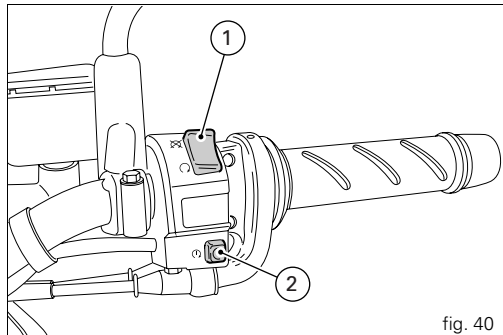

fig. 40
- 2) Check that the stop switch (1, fig. 40) is positioned to **○ (RUN)**, then press the starter button (2).